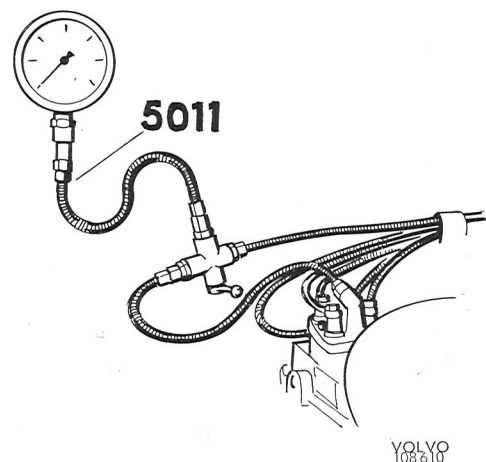

Fig. 1-30. Test of control pressure
- \*18. Turn the valve lever to position 2 (the valve lever in right angle to the fuel distributor) to test the control pressure, see Fig. 1-30.